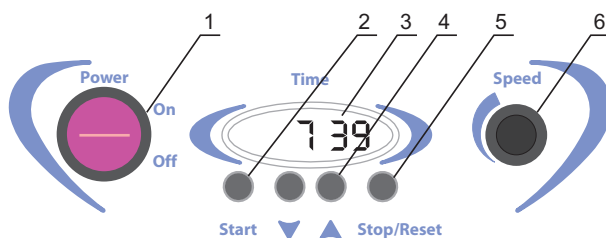

Fig.1 Control panel
- 4.3. Switch **On** the **Power** switch (Fig.1/1) (the timer display (Fig.1/3) will light).
- 4.4. Using the ▲ and ▼ keys (Fig.1/4) set the working time. The set time is displayed on the Timer indicator in hours and minutes (hh:mm).
- 4.5. Press the **Start** key (Fig. 1/2). The platform will start rocking movement and the timer will start counting up the set time interval. Timer display shows actual elapsed time: until 1 hour – in minutes and seconds (mm:ss), after 1 hour – in hours and minutes (hh:mm).
- 4.6. Set the shaking speed as recommended, using the **Speed** knob (Fig 1/6)
- 4.9. The unit can be stopped before the set time elapses if necessary by pressing the **Stop** key (Fig. 1/5). For 20 seconds the time indicator will be showing the time the shaker has worked, and after that it will be showing the set time.